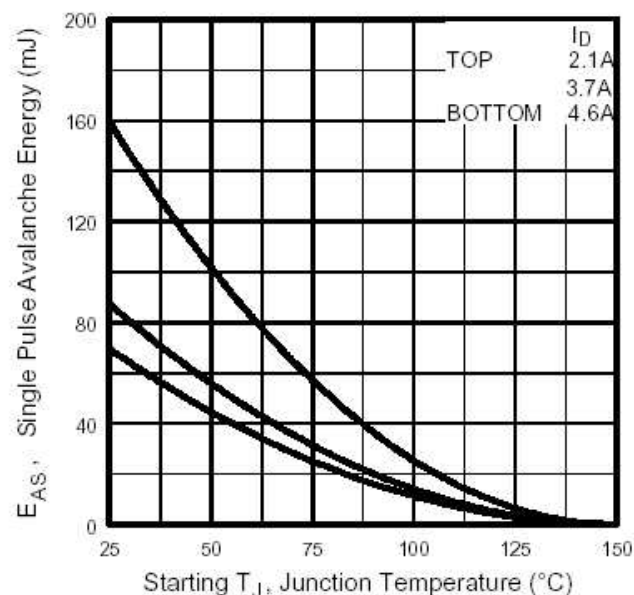

Fig 8. Maximum Avalanche Energy
$R_G = 25\Omega$, $I_{AS} = 4.6A$. (See Figure 8)③ $I_{SD} \leq 4.6A$, $di/dt \leq 120A/\mu s$, $V_{DD} \leq V_{(BR)DSS}$,